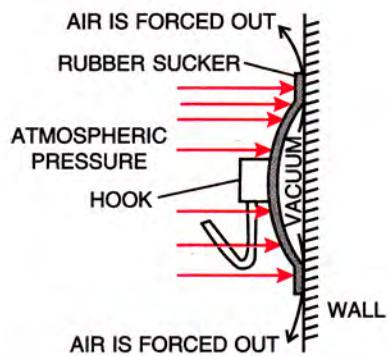

Fig. 4.16 Action of rubber sucker
- (iv) Action of rubber suckers :** Rubber suckers are often used as hooks in the kitchen and bathroom. For this, rubber sucker is pressed hard against the wall (Fig. 4.16) so that the air between the sucker and the wall is forced out, creating a vacuum in between. The atmospheric pressure acting on it from outside then holds the sucker alongwith the hook on it firmly against the wall. For firm grip, the wall must be smooth.